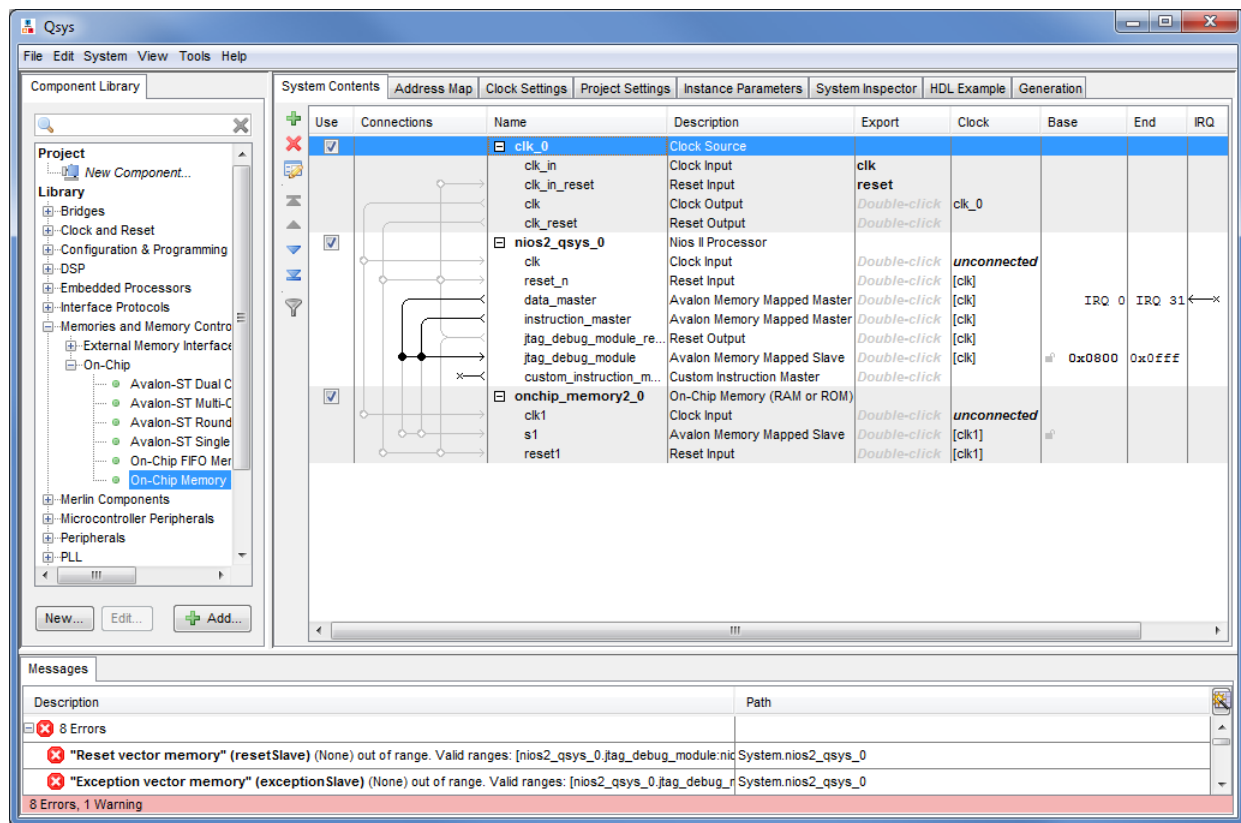

Figure 9. The on-chip memory included on a DE-series board.
- Click Finish, which returns to the System Contents tab as indicated in Figure 9
6. Observe that while the Nios II processor and the on-chip memory have been included in the design, no connections between these components have been established. To specify the desired connections, examine the Connections area in the window in Figure 9. The connections already made are indicated by filled circles and the other possible connections by empty circles, as indicated in Figure 10.